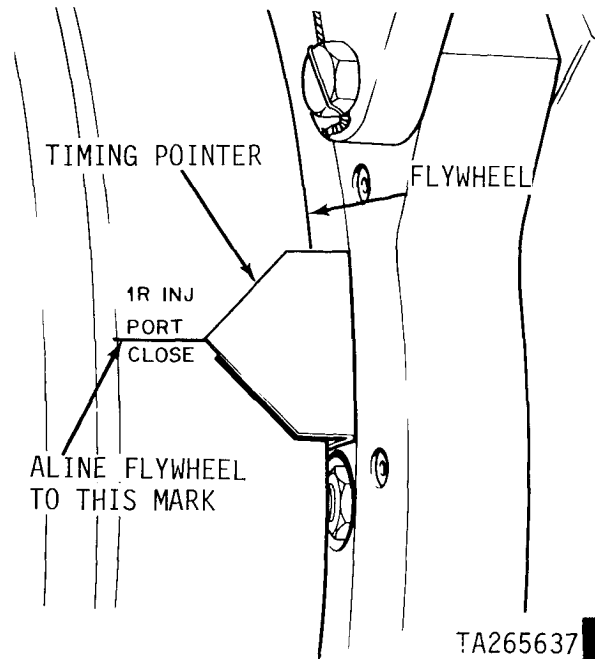

Figure 2-51. Flywheel in position for fuel injection pump timing, model AVDS-1790-2C and AVDS-1790-2D engines.
(4) Turn flywheel (fig. 2-51), using splined wrench, Part No. 10882747. Aline IR INJ PORT CLOSE timing mark on flywheel with timing pointer.
Be sure pointer aligns with correct timing mark on flywheel (fig. 2-51).